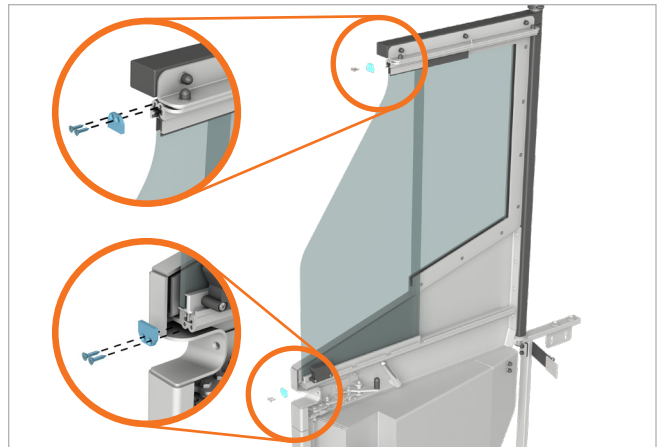

Figure 1 – Location of upper and lower stop plates.
2. Using the Torx T20 Screwdriver, install the two (2) stop plates and four (4) screws as shown in **Figure 1**. Tighten to a final torque of 23 in-lbs.